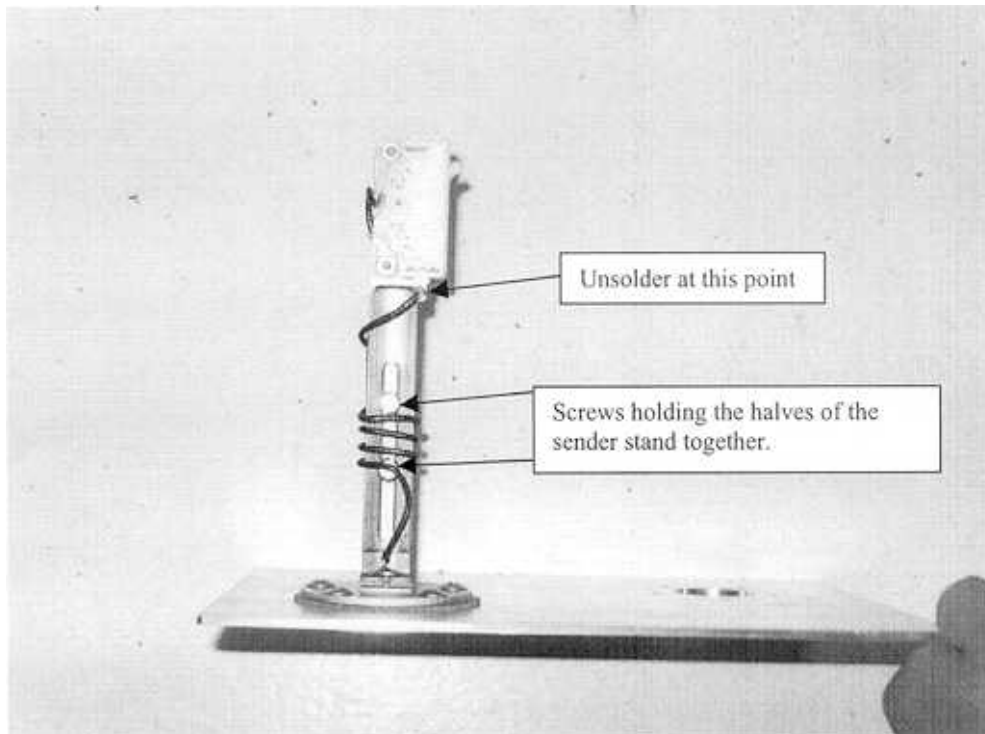

Figure 1
3. Unsolder the electrical lead on the fuel quantity sender as shown in Figure 1.